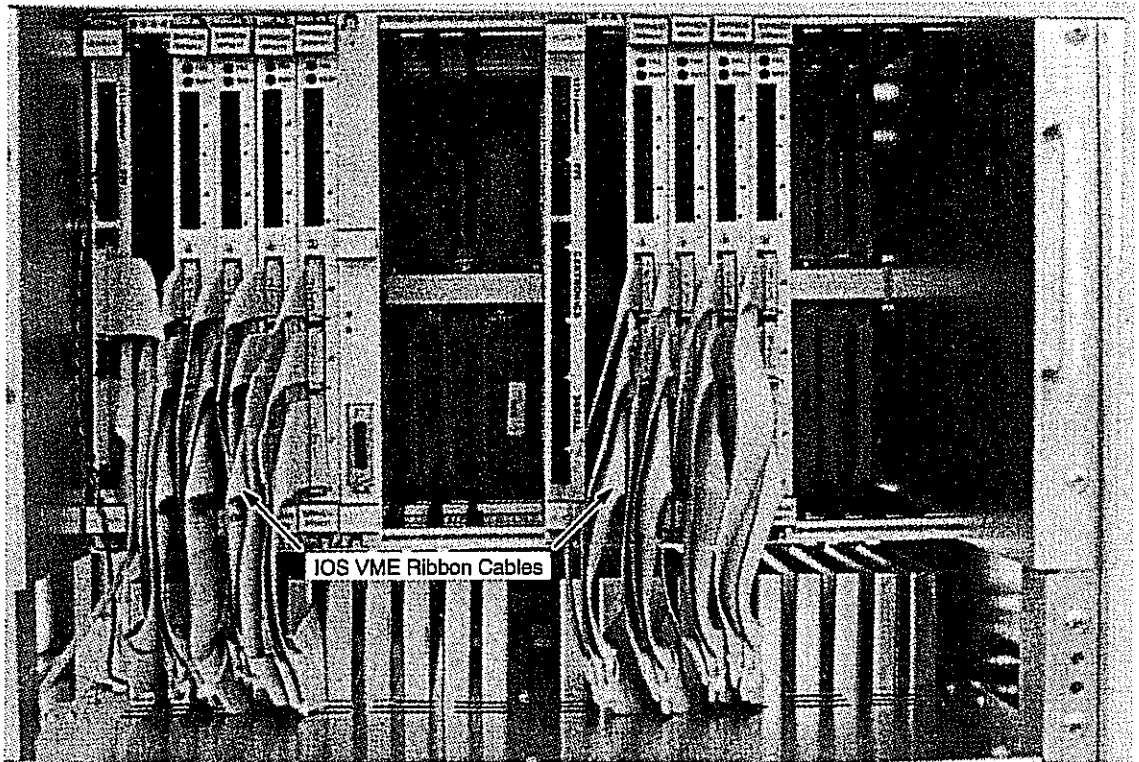

Figure 7-10. IOS VME Boards
The IOS VME boards act as controllers for the individual peripherals. An MIOP board and an input/output buffer board (IOBB) are also in the VME. If a peripheral seems to be faulty, consider that the controller may be failing. The IOS VME boards are shown in Figure 7-10.
2. Label the front ribbon cables and then remove them from each IOS board. Refer again to Figure 7-10.